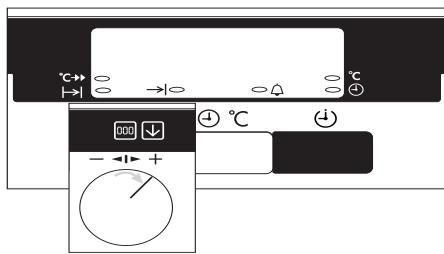

Fig.14
2. In addition press the Time Selector button (⌚) until the display goes out as Fig. 14.